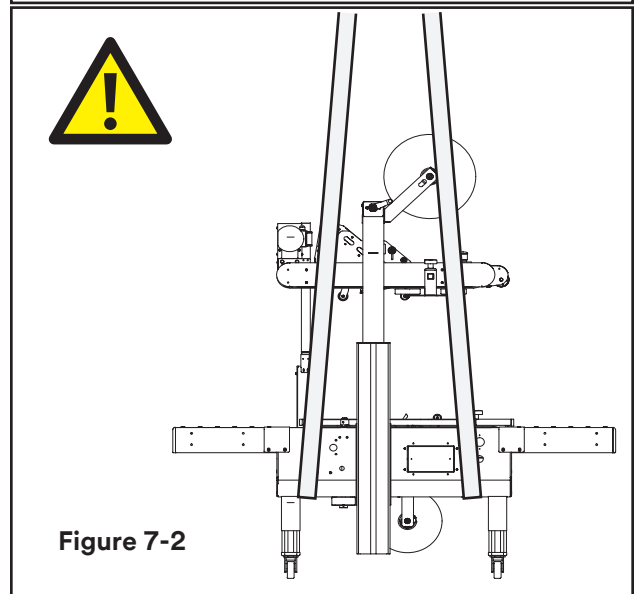

Figure 7-2
1. Lift the machine with belts or ropes paying attention to place the belts in the points (Figure 7-2).